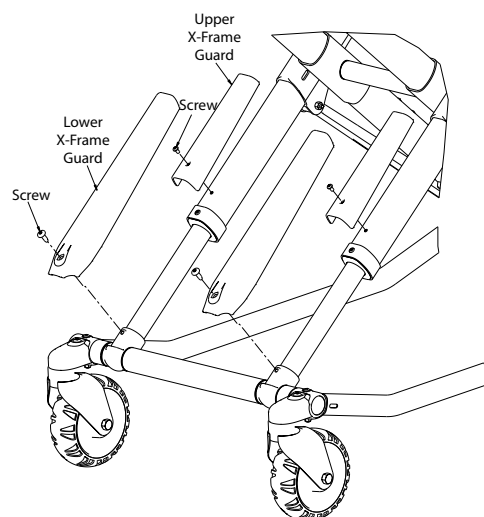

Figure 64
8. Using a T27 Torx driver, remove the screw that hold the X-frame guard to the inner tube (see Figure 64).
9. Remove the outer tube X-frame guard and set aside to reuse on the new outer tube (see Figure 64 on page 64).